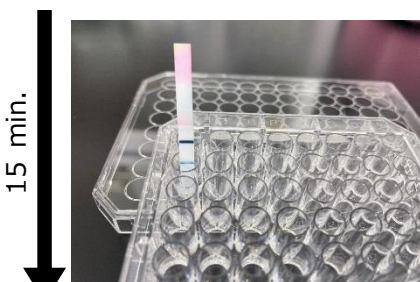

Fig.5
- Add 50 μL of washing solution to each new well. [Fig. 5]